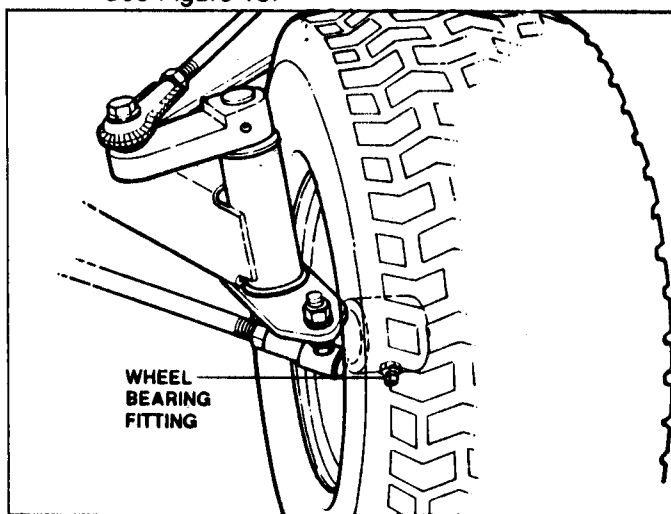

FIGURE 13
- **FRONT WHEEL BEARINGS:** Lubricate bearings through the fitting on hub of front wheels. See Figure 13.